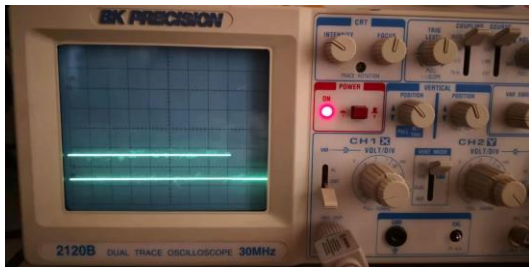

Fig. 4 Pulses measured at TP6 and TP7.
7. Close SW1, adjust Pot to maximum, place scope probe to TP6 or TP7, the pulse will be shown in the Fig. 4 below.